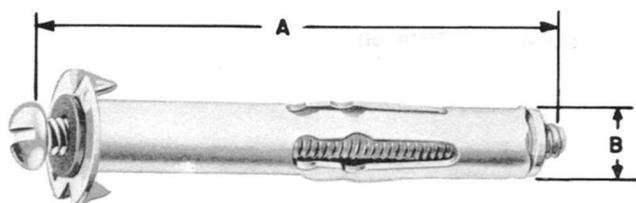

Fig. 1
1.03 The anchors are available in 15 sizes and three designs (Fig. 1, 2, and 3). To obtain maximum holding power, the wall thickness should first be determined, and then the correct anchor should be selected. Refer to Table A for selection.